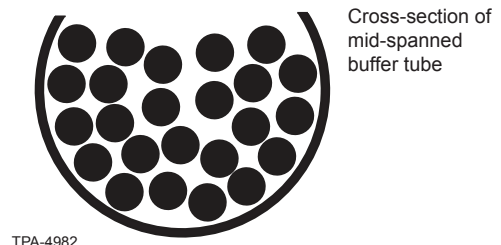

Figure 23
Step 5: Retrieve the required fibers for splicing (Figure 23).